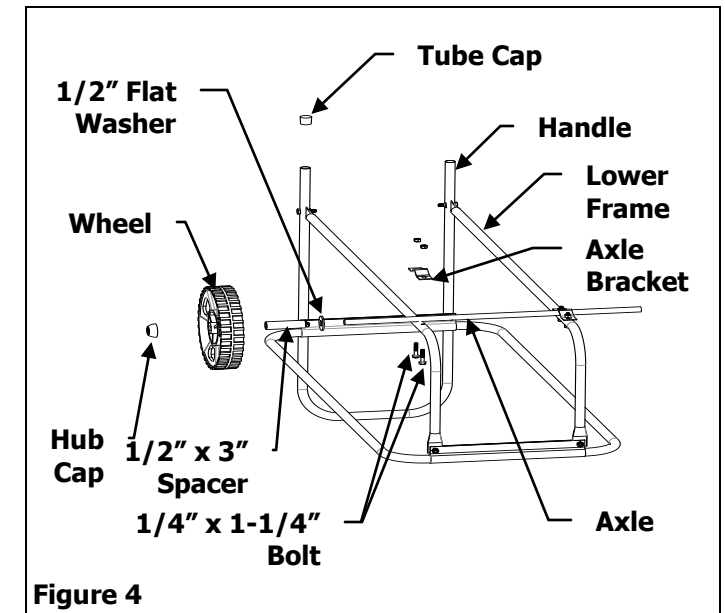

Figure 4
4. Mount the Axle loosely to the bottom of the Lower Frame with Axle Brackets. Insert the 1-1/4" Bolts up through the Lower Frame, then through the Axle Brackets, and secure with a 1/4" Hex Head Nut. Place one 1/2" Flat Washer on each side of the Axle, followed by a 1/2" x 3" Spacer. Place a Wheel on each side of the Axle, secure by tapping a Hub Cap onto each side of the Axle. Spread the Lower Frames so that the Axle Brackets are snug against Wheel Assembly, now tighten these nuts and bolts only. Place one Tube Cap onto each end of the Handle. See Figure 4.